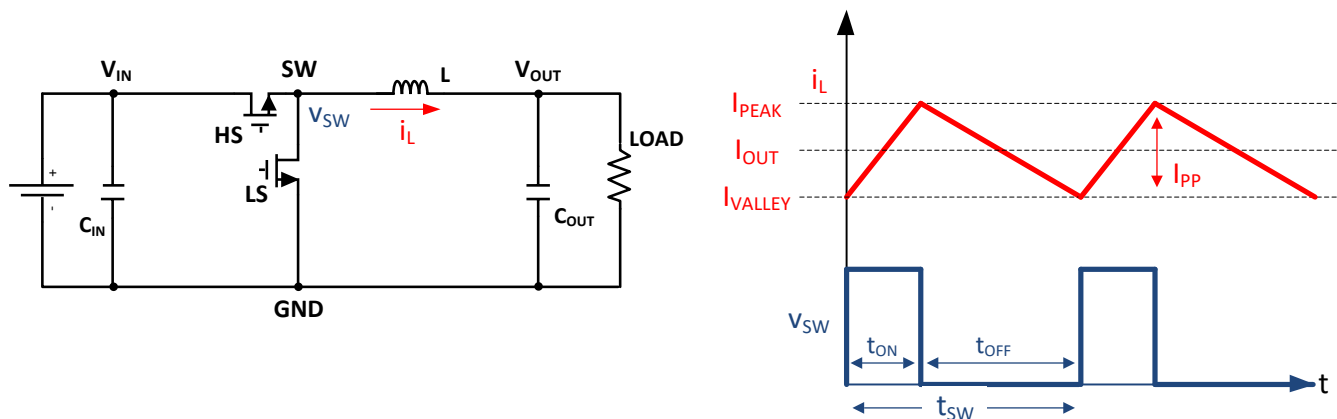

Figure 2-1. Basic synchronous buck regulator and waveforms
The fundamental operation of buck regulators is discussed in detail in other application reports (3). While not covered in detail here, an understanding of the basic buck operational waveforms is useful for the discussions in this report. Figure 2-1 shows the basic synchronous buck power stage and the simplified waveforms of the inductor current (i_L) and switching node (v_{SW}) in steady state continuous-conduction mode (CCM) conditions. For simplicity, dead times and resistive components such as MOSFET on-resistances and the inductor DC resistance have not been considered in the analyses and equations in this report.